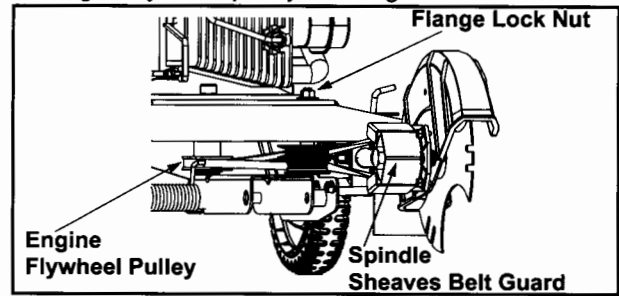

Figure 8
- Working in front of the edger, loosen the flange lock nut on top of frame, allowing the idler pulley assembly to pivot slightly out from the frame. See Figure 8.
- With your other hand, carefully reach under the rear of the unit and remove the belt from around the engine flywheel pulley. See Figure 8.